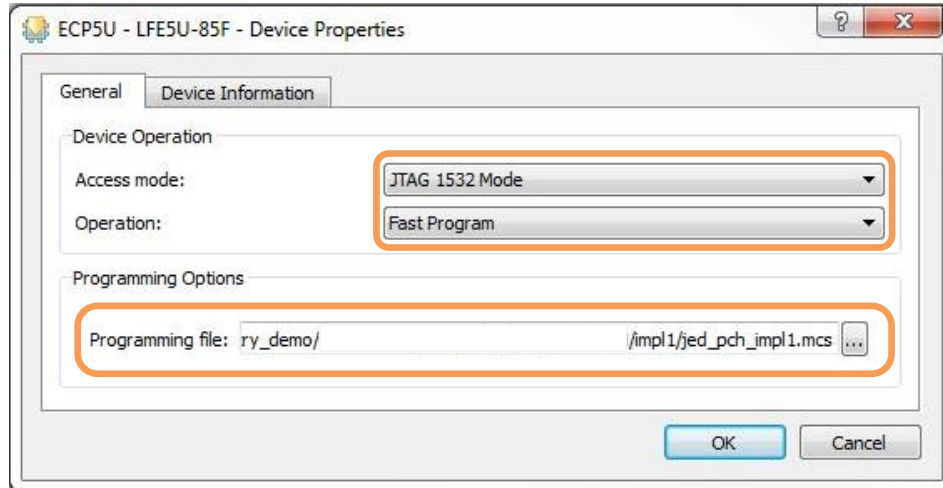
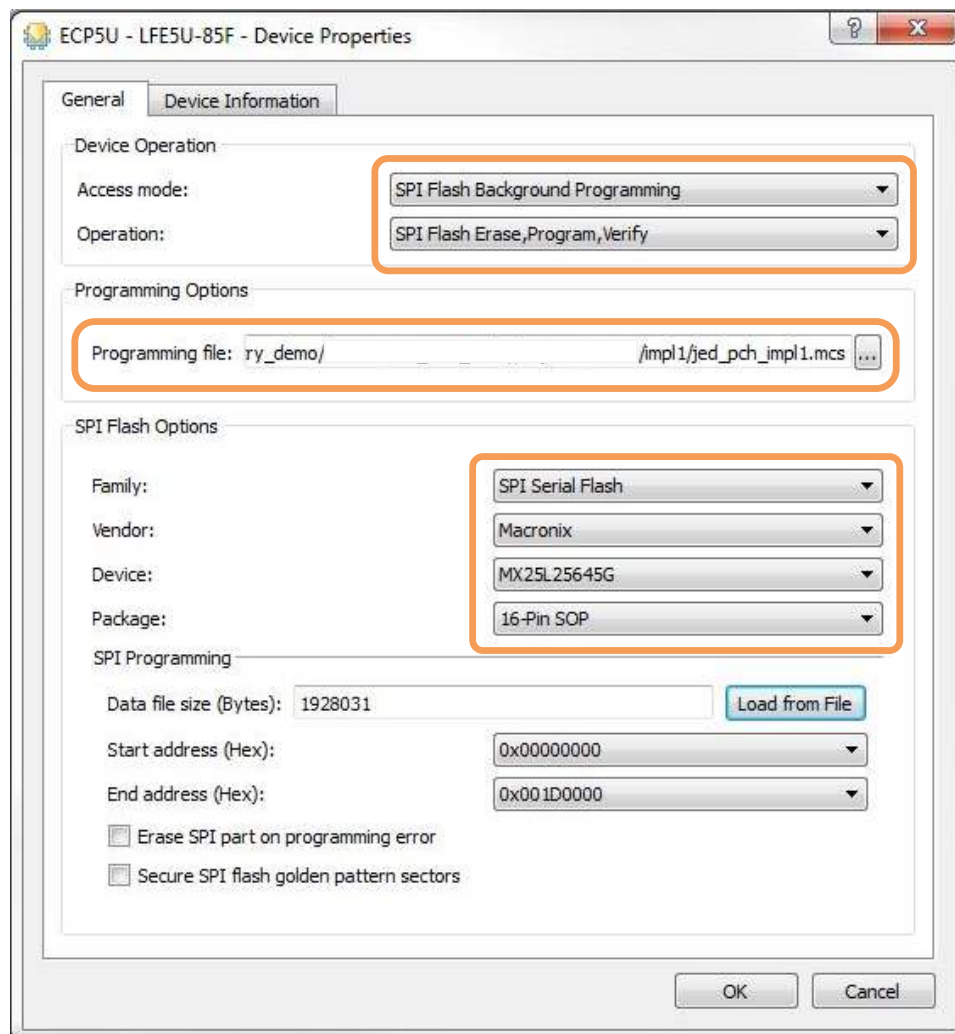

Figure 4.16. Internal RAM Mode Operation
Figure 4.17. External SPI Flash Mode Operation
The ECP5 device has two programming modes (Figure 4.16 and Figure 4.17) for the Lattice Sentry Demo Board for MachXO3D.
To select external SPI Flash mode (Figure 4.17):
2. Under the **SPI Flash Options**, select the following options as shown in Figure 4.17: